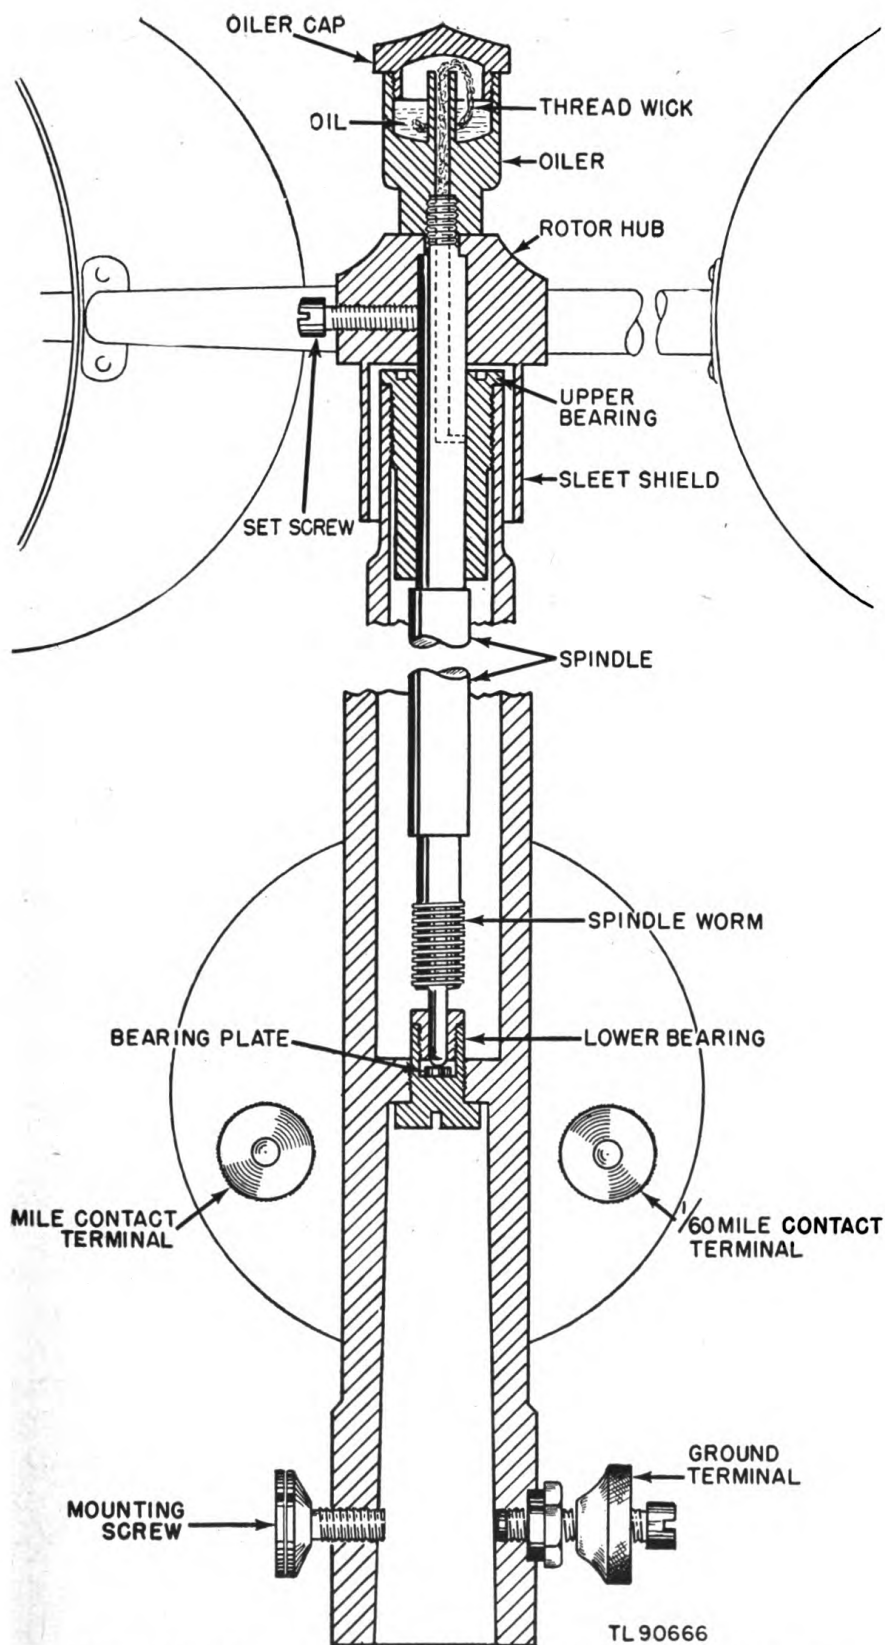

Figure 11. Anemometer ML-80 or ML-80-B, cross section view.
d. Anemometer (fig. 11). (1) *Rotor.* Examine the rotor to detect bent arms or cups. Replace the rotor if any part of it is out of shape.
(5) Turn the spindle to move the cam and disk slowly past the index. Adjust the N contact first, by means of the adjusting screw, so that the N light goes off $33\frac{3}{4}^\circ$ to one side of N. It should do the same on the other side of N. If the action is not the same, check the contact roller arm for loose mounting and tighten.
(6) Proceed around the disk, to adjust each contact, using the limits mentioned, $33\frac{3}{4}^\circ$ to either side of a cardinal or intercardinal point. Thus, $11\frac{1}{4}^\circ$ to either side of any of the points will be the limit for that particular direction. (See par. 19.) If the light should go off too soon or too late, loosen the contact, shift the contact roller arm slightly to one side, tighten the contact and recalibrate until it is properly adjusted.
23. OVERHAULING ANEMOMETER (fig. 11). **a. Time.** Overhaul the